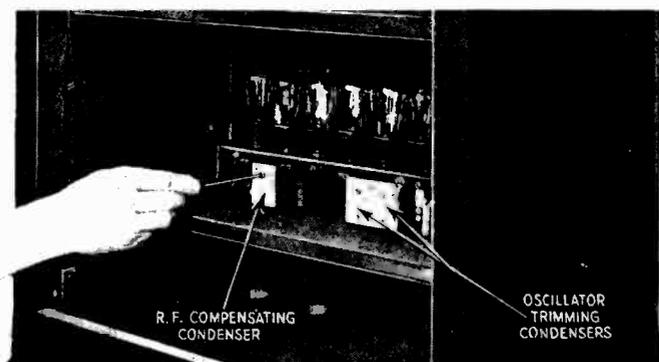

Figure 11—Method of adjusting compensating and oscillator trimming condensers in cabinet
- (c) Locate the position of the compensating condenser (See Figure 11).